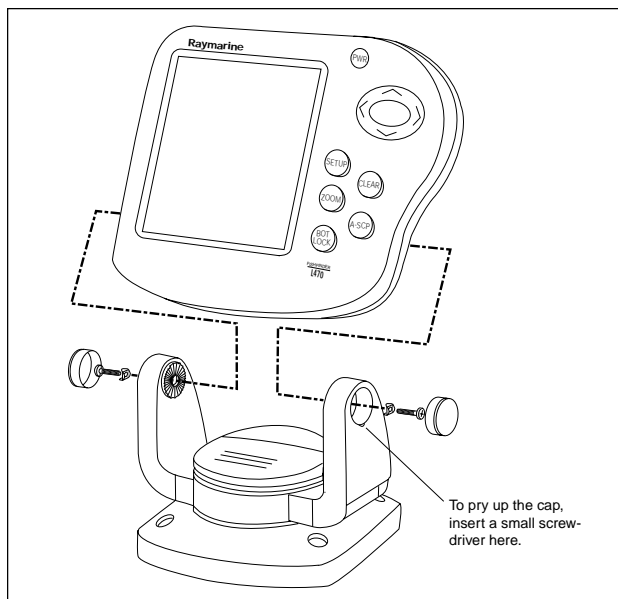

Fig. 2-13
6. Separate the display unit from the mounting bracket. (See Fig. 2-13.) Press the large button in the center of the bracket to separate the bracket arms. The display unit is attached to the arms by two screws. Each screw is covered by a cap. Locate the small slot beside each cap and pry upward using a small screwdriver. Remove the caps, then the two screws and the two wave washers. Save these parts in case you ever want to use the mounting bracket.